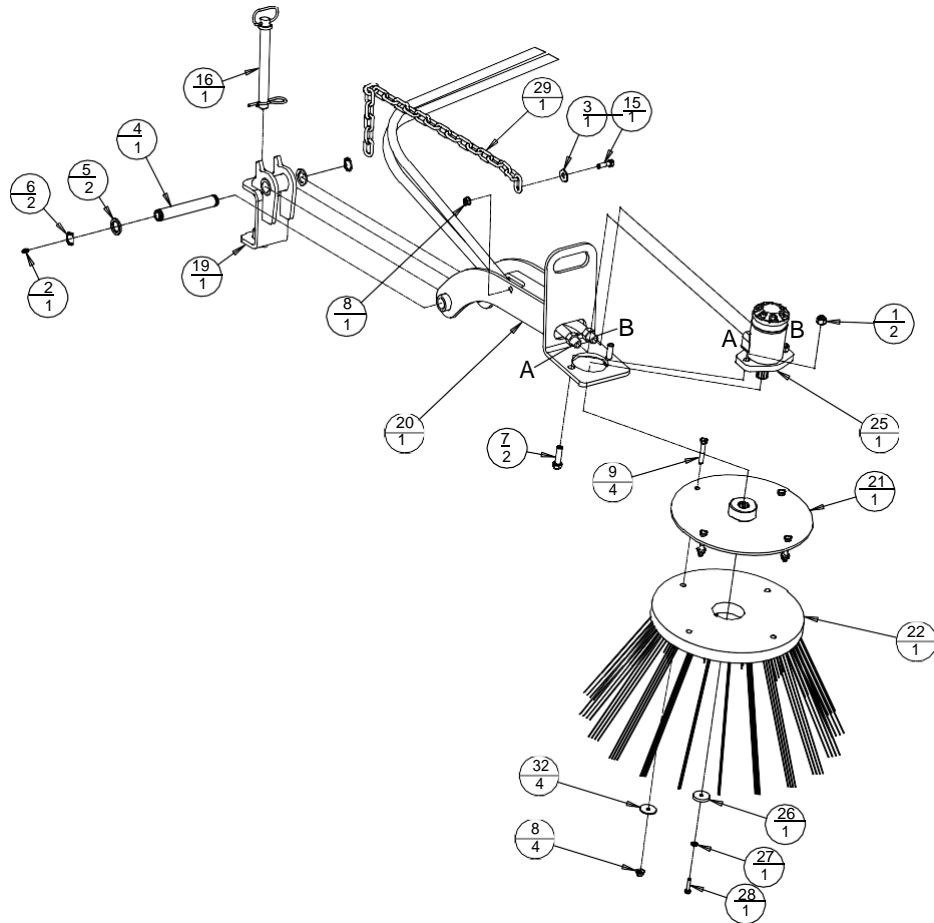

Figure 7.
- Install Gutter Brush on desired side of Pick-Up Broom using the 7/8" hitch pin provided (Item #16, see Figure 7). Secure Gutter Brush with adjustment chain provided.
- If the Gutter Brush is mounted on the right side of the Pick-Up Broom, route the hoses through the hose guides and connect Gutter Brush hose "A" (see Figure 7) to port "M3" on valve block and Gutter Brush hose "B" to port "M4".
- If the Gutter Brush is mounted on the left side of the Pick-Up Broom, route the hoses through the center hose guide and connect Gutter Brush hose "A" (see Figure 7) to port "M4" on the valve block and Gutter Brush hose "B" to port "M3".